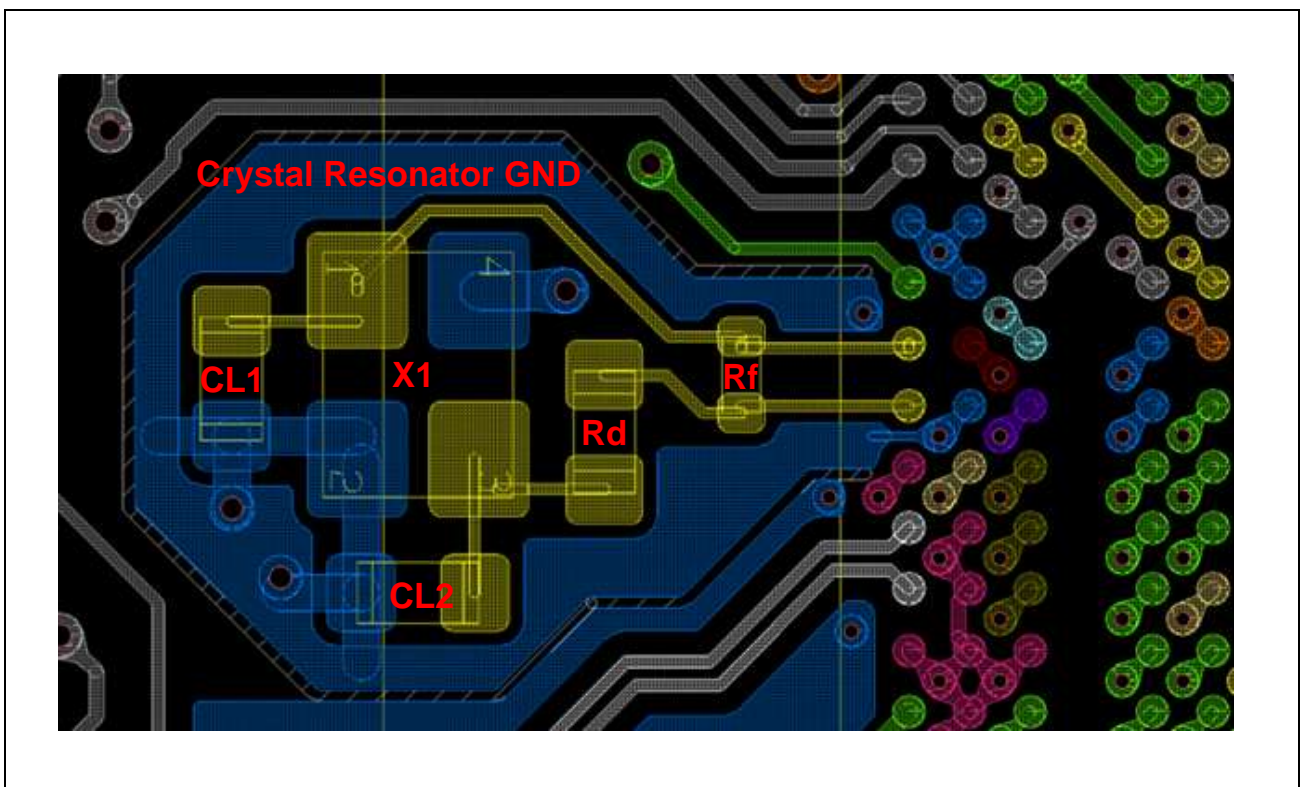

Figure 3.3 Example layout of the first layer (Layer1) of the PCB
**Figure 3.3** shows an example PCB layout Layer1 for the crystal connection.